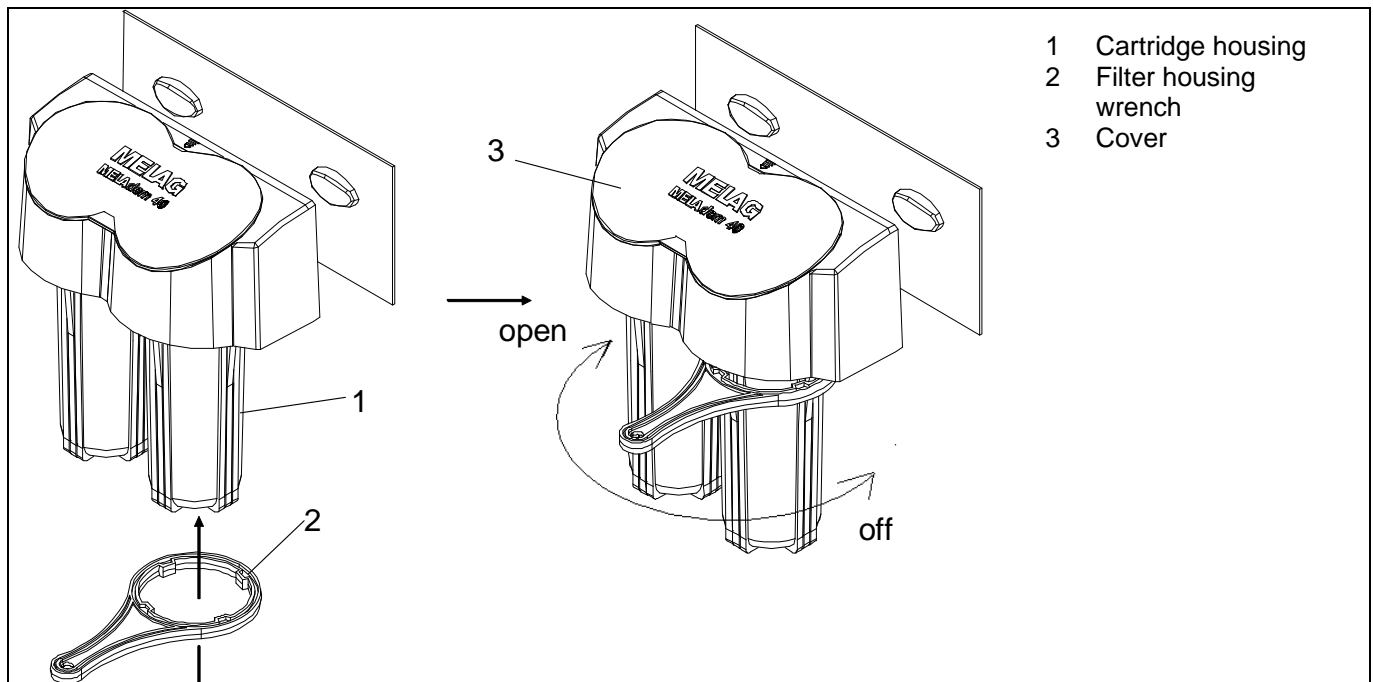

Figure 18: How to use the cartridge housing wrench
- Slide the wrench from the bottom onto the filter enclosure, and move it up toward the top as far as will go. Allow it to lock into place there. Open each of the container elements by turning the wrench clockwise (as seen from above): see Figure 18). As soon as the container elements can be easily turned, you can remove the wrench and unscrew the elements by hand for the last turns..